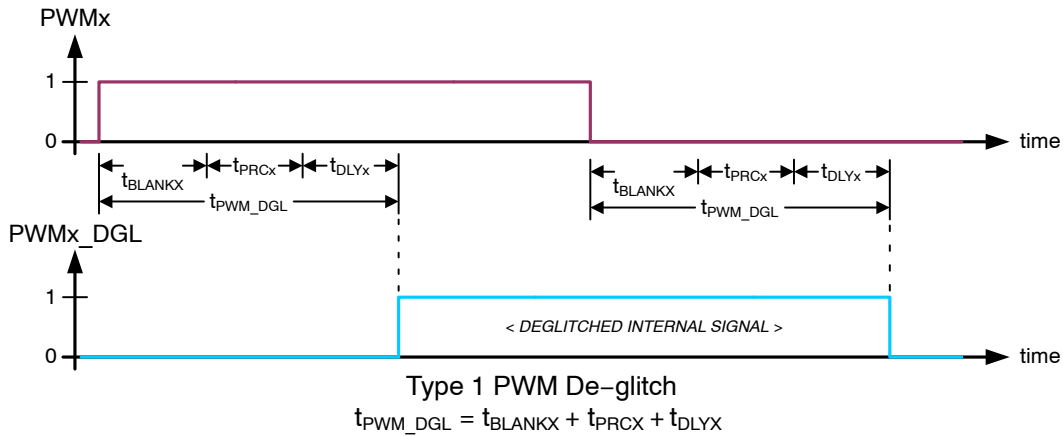
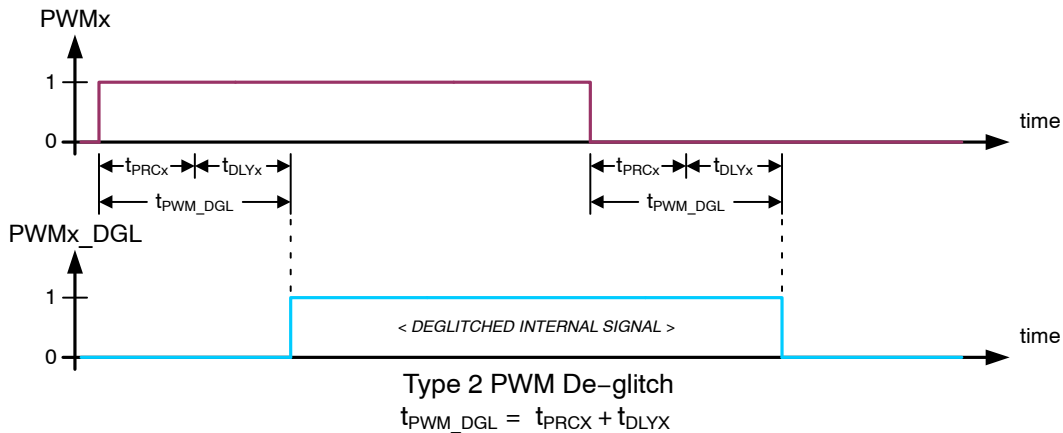

Figure 10. Type 1 PWMx Input De-glitch - CR14.DGLx = 0
Figure 11. Type 2 PWMx Input De-glitch - CR14.DGLx = 1
When multiple PWMx inputs are needed to be active, the scheduled PWM signals should be offset in time to avoid degradation of the VDS overload detection due to crosstalk (see § *Overload Protection*). The minimum offset should be based on the t_{PWM_DGL} times appropriate for the respective channels (see § *Switching Behavior of Half-bridge Drivers*, Figure 10 and Figure 11).
- adaptive PWM input de-glitch construction when in half-bridge configuration is selected by DGLx[6:0] bits (see Figure 10, Figure 11, Table 21 and Table 22).
When operating HB1...HB7 in PWM mode and in half-bridge configuration, type 1 de-glitch is selected when CR14.DGLx = 0 (see Figure 10) and the adapted time is given by:
Type 2 de-glitch is selected when CR14.DGLx = 1 (see Figure 11) and the adapted time is given by:
- the PWM_x_DGL resulting from the channel's operating configuration (see § *Switching Behavior of Half-bridge Drivers*, Figure 10 and Figure 11);